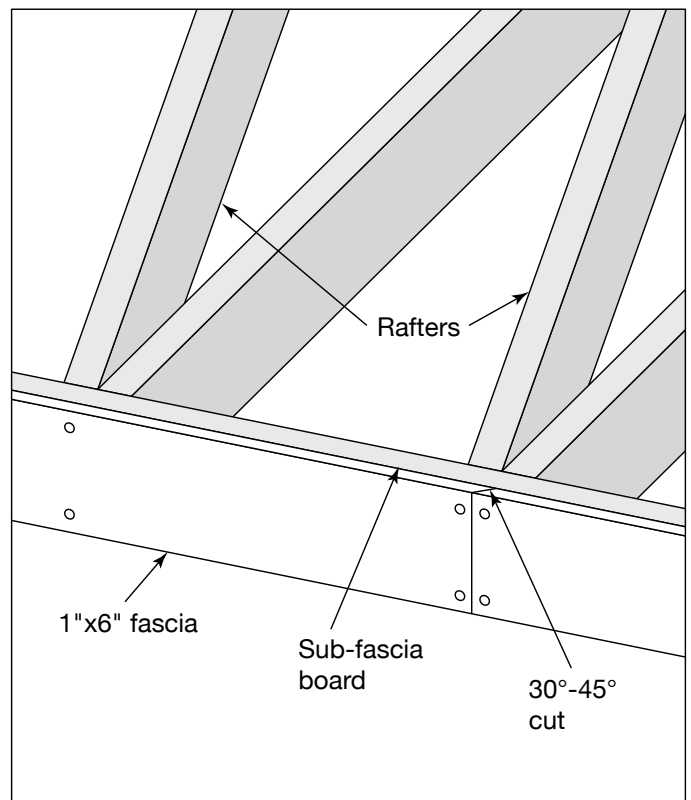

Fig. 8
- Nail the trim pieces in place with two blunt-tipped, roundheaded stainless steel or hot-dipped galvanized nails, or #6 or larger exterior coated or stainless steel trim-head screws within 2" of the edge of the trim piece (**Fig. 8**).
- On long trim runs, use butt joints cut at 30- to 45-degree angles (**Fig. 8**).